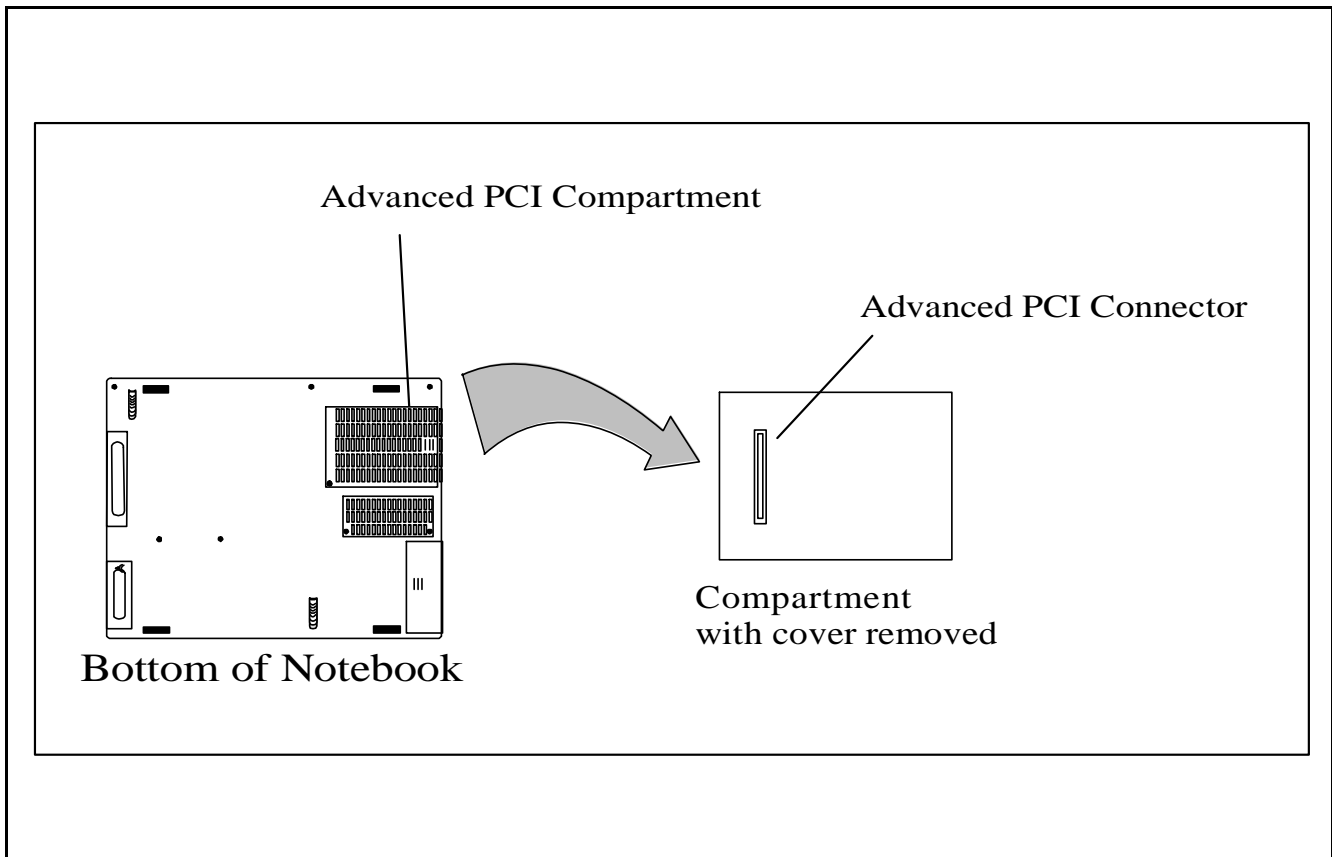

Figure 6-8 Removing/Replacing the APCI Option
3. Turn the computer over and locate the APCI Access Cover as shown in Figure 6-8.